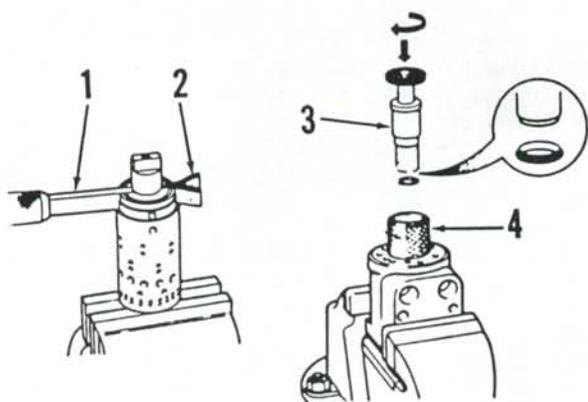

Fig. 57—View showing method of installing centering springs and shaft seal rings using Case special tools.
**NOTE:** If available, Case special tool (CAS-I239) will aid in installing centering springs. To use, slide tool through spring slots of sleeve and spool, assemble springs and place ends in slot of tool, then compress opposite ends of springs and slide springs into position while pushing tool out. See Fig. 57.
Install a new oil seal (9) in body with seal lip facing inward. Lubricate "O" ring (10) and install it on outside diameter of backup ring (11), then install assembly in valve body bore. If available, Case special tool (CAS-1238) should be used to ensure correct installation of "O" ring and backup ring. To use, install "O" ring and backup ring on end of spindle (3—Fig. 57). Push spindle with seal ring into sleeve of special tool, then insert assembly into valve body until sleeve bottoms. Use a rotating motion while pushing on tool spindle until "O" ring seats in valve body, then withdraw tool.